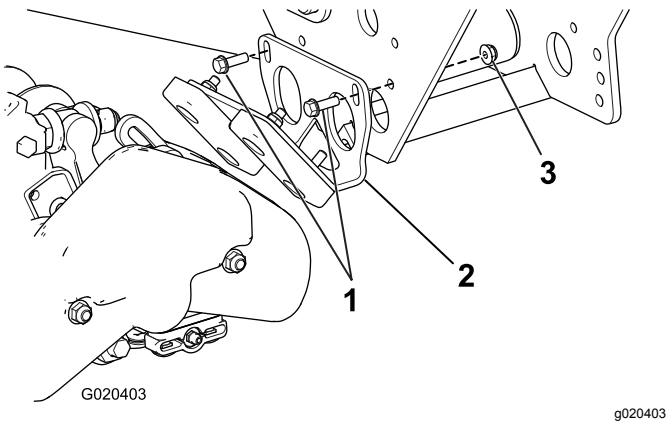

Figure 29
43. **For the 22-inch cutting units only**, install the bumper assembly on the machine using 2 bolts and locknuts (Figure 29).